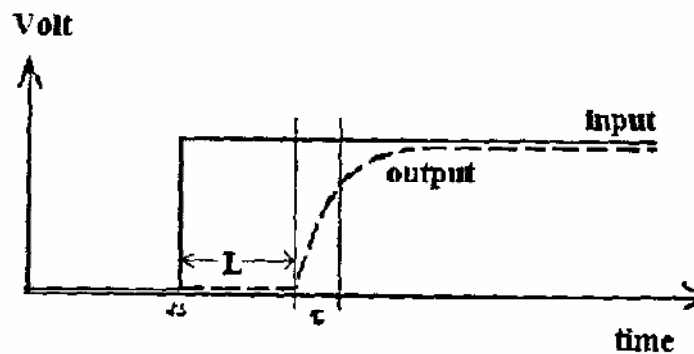

Figure 2 Representation of transient response
L : velocity lag (time delay) pure time delay (dead time), The time required for the system to start responding to the input change. as shown in Figure2
3. Record the plant output until it settles to the new operating point. Assume that you obtain the curve shown in figure 2. This curve is known the process reaction curve.